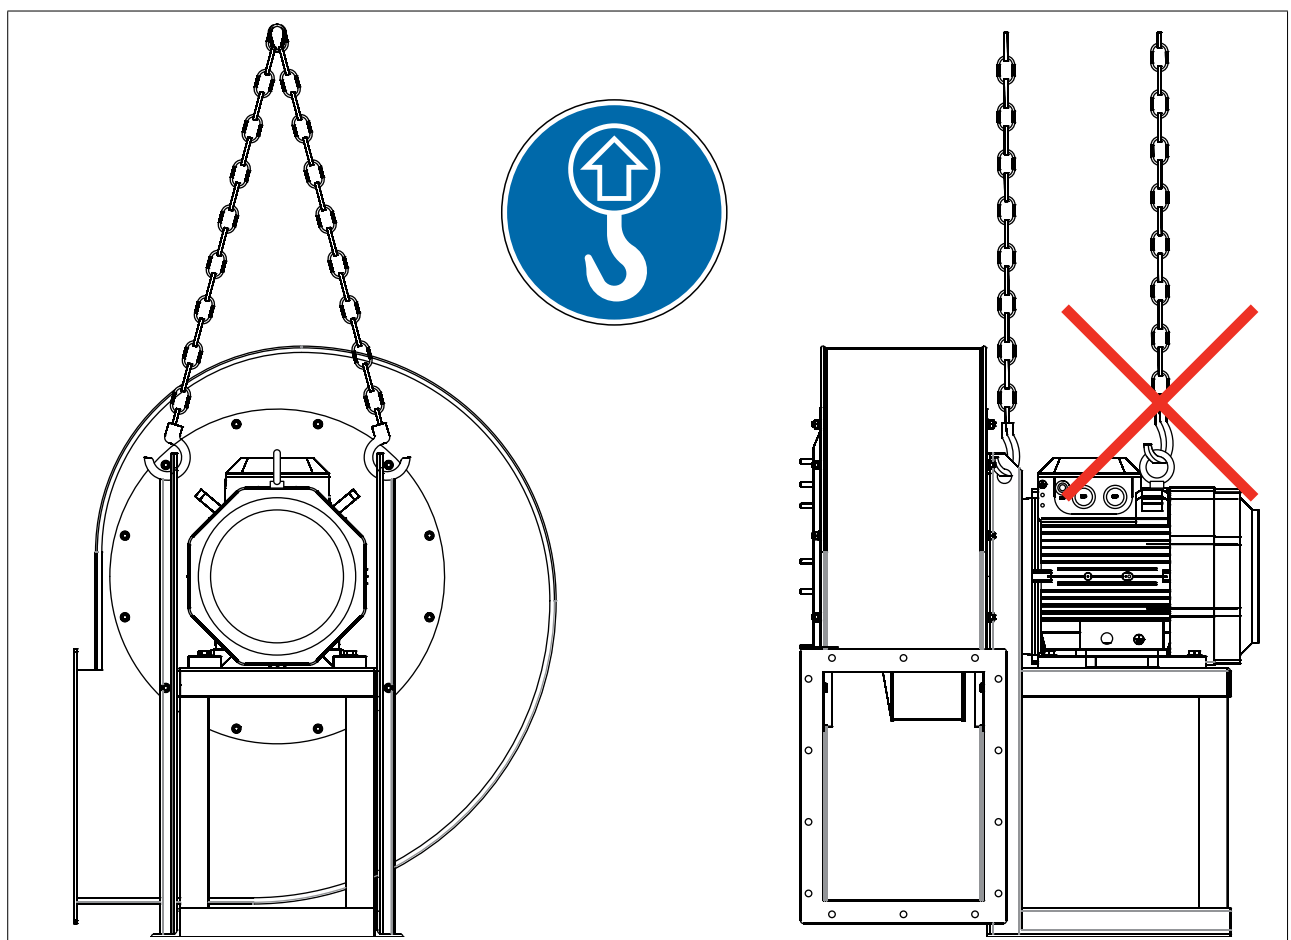

FIG. 11 (Anchoring points for lifting the fan)
IT IS COMPULSORY TO USE SUITABLE MEANS (ROPES, SLINGS, CHAINS, CRANES, FORK LIFT TRUCK, ETC.) IN COMPLIANCE WITH THE REGULATIONS IN FORCE ON SAFETY, USING THE ANCHORING POINTS IDENTIFIED BY THE SIGN SHOWN IN FIG. 11.
**4.2- How to lift the fan (FIG. 11)**
It is necessary to use the suitable holes created on the fan (usually on the stringers on the base s. FIG. 11) and highlighted by means of suitable signs. It is recommended to use a chain sling with 2 or more arms, which shall be selected by the operator entrusted with the handling after analyzing the size and mass of the fan to be lifted and finding the right symmetry degree for a suitable lifting - apply the 818-6:2000+A1:2008 standard. Make sure that the arms that are not used are folded and attached to reduce the risk that they may start swinging and get caught and, therefore, interfere during the lifting phase.
The tips of the hooks should always be facing outwards FIG. 11.